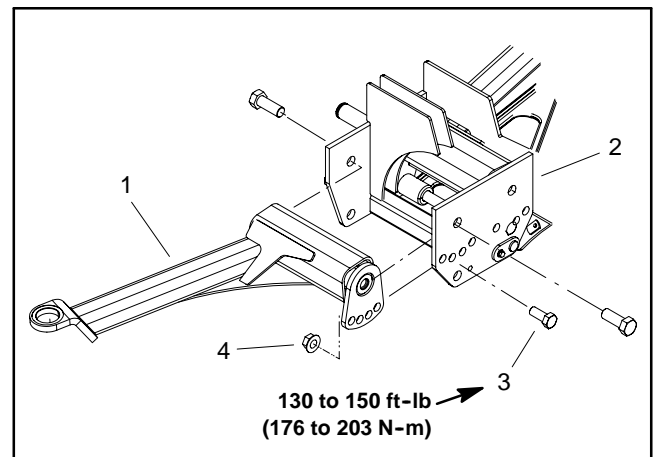

Figure 2
B. Loosen and remove lock nut and cap screw that secure axle assembly position to the frame (Fig. 2).